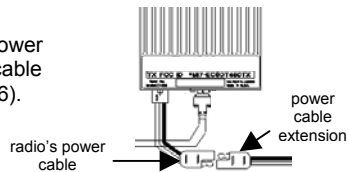

Figure 6
**Step 1** Connect the radio power cable to the power cable extension (see Fig. 6).